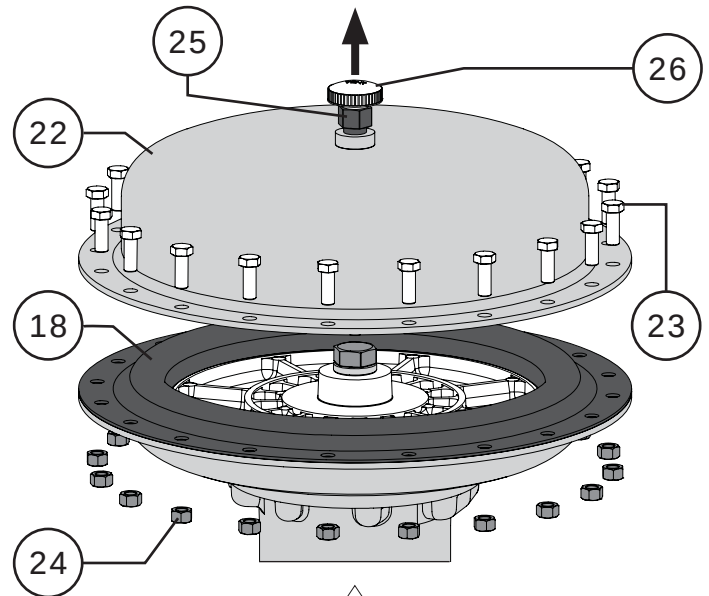

Figure 73 Upper Diaphragm Casing Disassembly
- 5 Remove the casing cap screws (Key 23) and nuts (Key 24), then remove the upper diaphragm casing (Key 22). Refer to Figure 73.